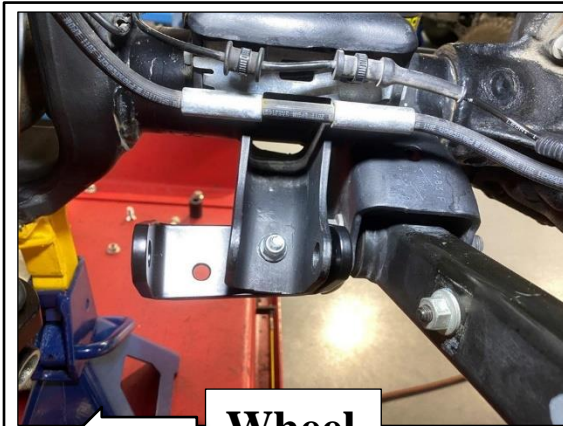

Figure 12 – Driver Side Offset Bracket
- N. Install the clevis from the mount kit in Figure 11 as shown in Figures 12 & 13. The position of the clevis should allow the shock lower mount to be offset outboard towards the wheel. Use the M8 screws and nuts for both driver and passenger sides, and torque fasteners to 19 lb•ft (25 N•m).